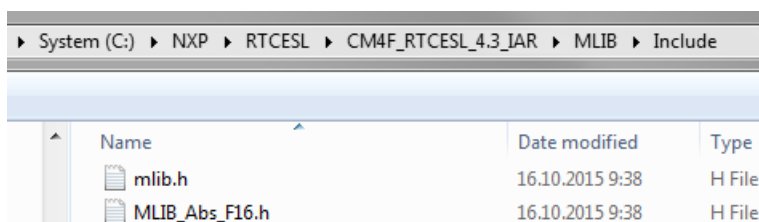

Figure 1-32. Add Files dialog
5. Navigate into the library installation folder C:\NXP\RTCESL\CM4F_RTCESL_4.3_IAR\MLIB\Include, and select the *mllib_fp.h* file. (If the file does not appear, set the file-type filter to Source Files.) Click Open. See Figure 1-32.